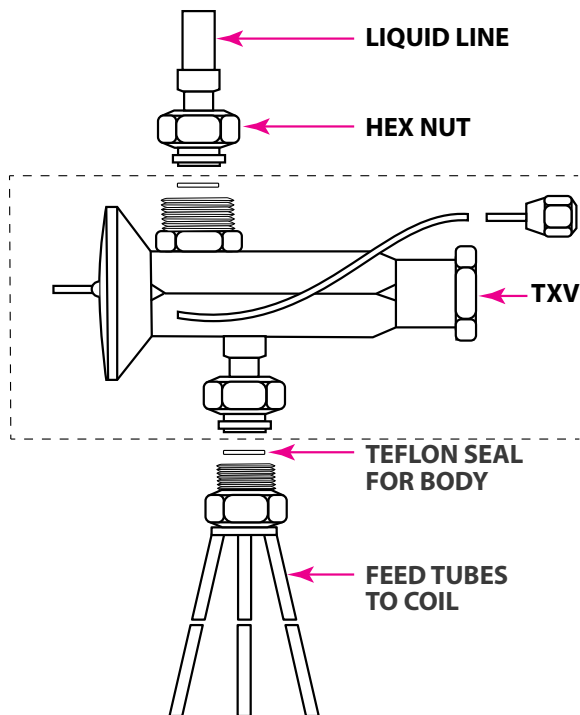

Figure 20: Typical TXV Connections
5. As shown in Figure 20, the TXV assembly must be installed between the distributor and the liquid line connector.